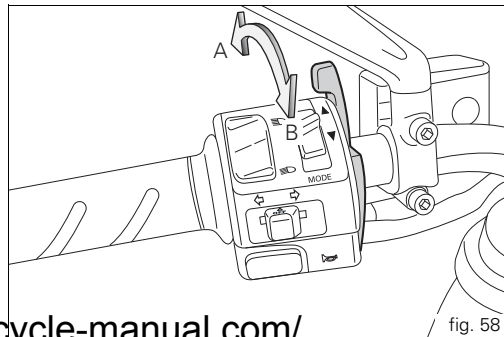

fig. 58
- 2) Shift the cold-start lever to position (B, fig. 58).
5) Subsequently, as the engine warms up, move the cold start lever gradually towards its vertical position (A, fig. 58). Once the engine is at normal running speed it should idle smoothly with the cold start lever completely closed.